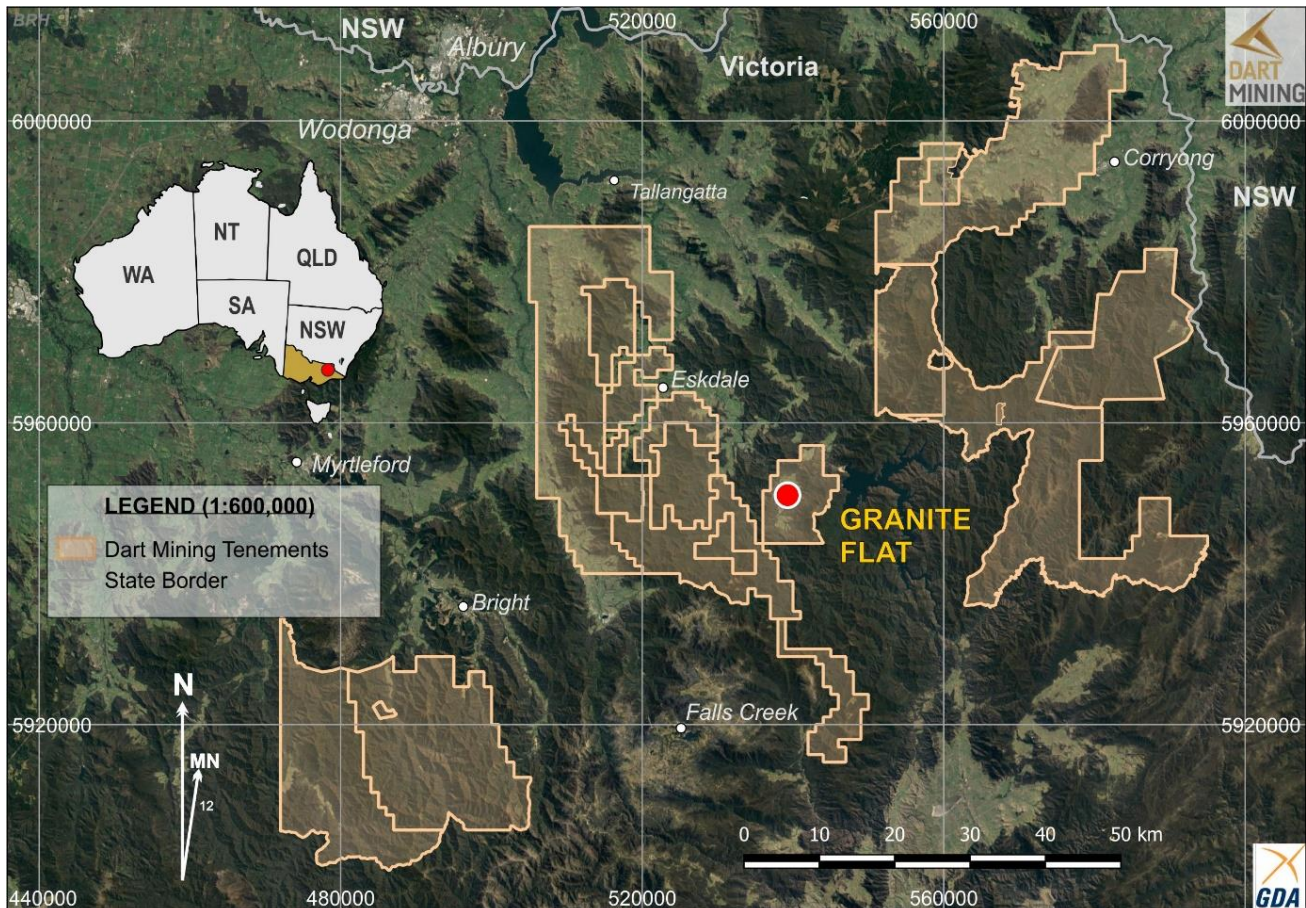

Figure 14 – Location of the Granite Flat prospect, Northeast Victoria.
The Granite Flat prospect is located nine kilometres southeast of Mitta Mitta township and is accessed via the Omeo Highway (Figure 14). Historically, the prospect was mined at several small production centres between 1856 and 1918, following an initial discovery identified by tracing the source of alluvial gold in the Mitta River upstream. Previous explorers have targeted the area with geophysical surveys, rock chip, soil and stream sediment sampling, and drilling and trenching. Historic soil grids have established several large, strong Cu-Au anomalies that have seen variable drilling efforts across the prospect. In total, 18 costeans, 52 reverse circulation (RC) and 19 diamond drillholes have been completed by previous explorers between 1986–1997 (Meltech Ltd., CRA Exploration [now Rio Tinto], and Perseverance Mining Ltd.). The broad intersections of low grade Cu-Au mineralisation returned in historic drilling and Dart Mining’s recent 42 hole RAB drilling program are hosted within potassic, chlorite and epidote-altered granodiorite, further confirming the potential for porphyry-style mineralisation (DTM ASX 8th March 2021).